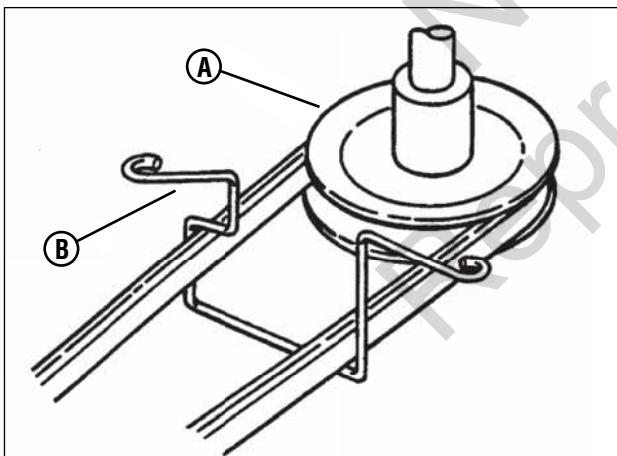

Figure 44: Engine pulley and belt guide
3. Route the new belt through the engine belt guide (B, **Figure 44**) up to the engine pulley (A).